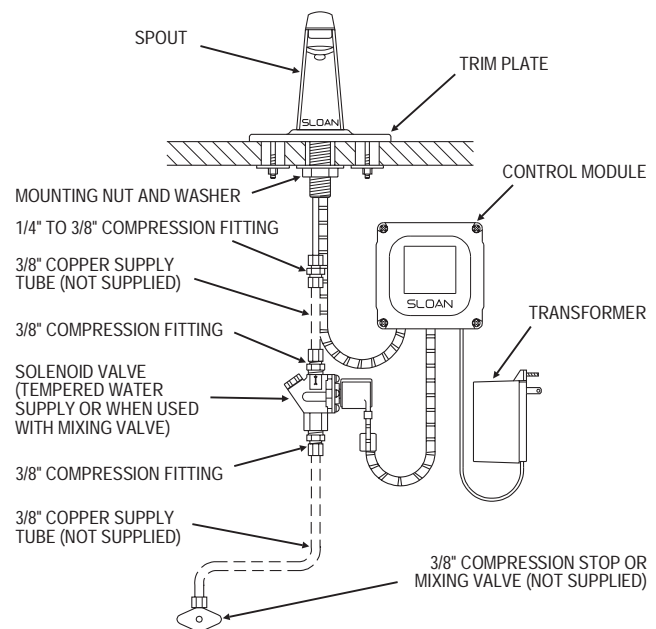

Figure 1
FAUCET ROUGH-IN — Figure 1
Prior to installing the Sloan ETF-80 Faucet, install the items listed below. Also, refer to Figure 1.
The Sloan ETF-80 sensor operated faucet can be supplied with two back checks. When connecting the faucet to a hot and cold water supply, two back checks are required as shown in Figure 1. Water temperature can be controlled by adjusting the supply stops if the optional Sloan mixing valve is not purchased. When connecting the faucet to a single line water supply or a pre-tempered water supply, a back check is not required.
Step 4 — Connect Supply Line(s) (Figure 1)
When connecting the Faucet to a hot and cold water supply, two Back Checks are required as shown in Figure 1.
Install a 3/8 inch copper Supply Tube between each Back Check and the Compression Tee Fitting supplied (refer to Figure 1).
Refer to Figure 1 — Faucet Rough-In for Additional Information.
Step 6 — Mount Control Module to Wall (Figures 1 and 10)
Install the Control Module in an appropriate location as shown in Figure 1. Control Module must be installed so that all cables enter from the bottom of the unit. When installed, Cables from the Spout and Solenoid Valve to the Control Module should have some slack.